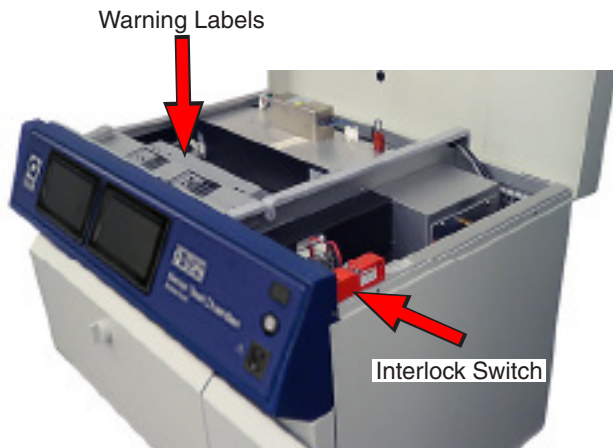
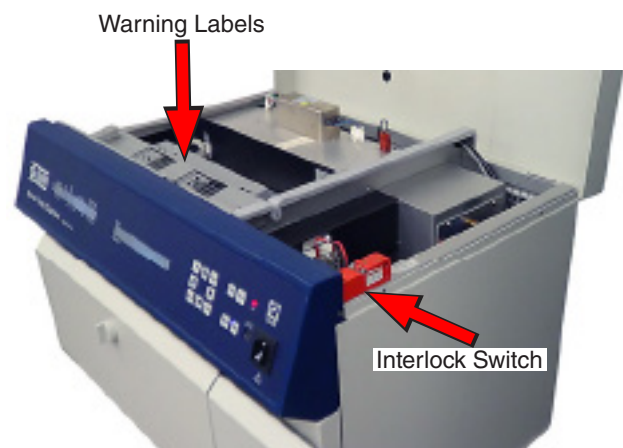

Figure 2a: "E" model testers warning label and interlock switch location (lamp access door open).
Figure 2b: Basic model tester warning label and interlock switch location (lamp access door open).
- All Q-SUN Xe-1 models are equipped with a lamp access door interlock switch that turns off the xenon lamps when the lamp access door is opened (Figure 2a and Figure 2b).